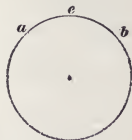

FIG. 12.
30. An *arc* of a circle is any part of its circumference; thus $a e b$, Fig. 12, is an arc of the circle.